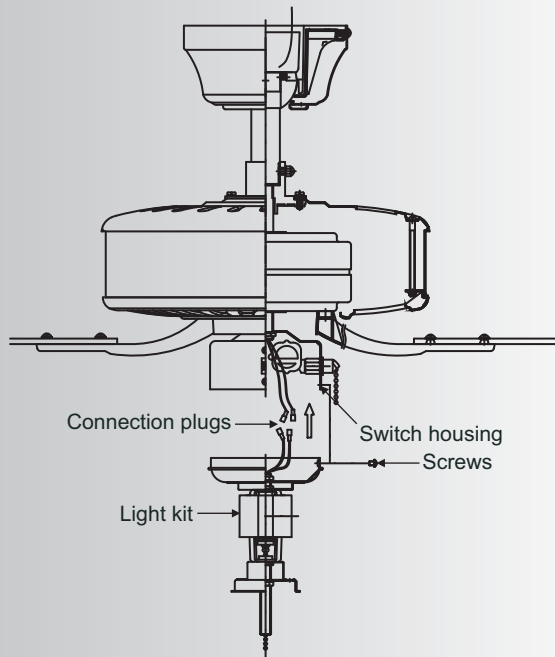

Fig. 17
Step 2. Raise and hold the light kit close to the switch housing. Connect the white wire connectors from the light kit and switch housing. Follow the same procedure with the black wire connectors. (Fig. 17)
Step 3. Tuck connections neatly into switch housing, Place the light kit key holes over the 3 screws previously loosened from the switch housing, turn light kit until it locks in place at the narrow section of the key holes. Secure by tightening the 3 screws previously loosened. (Fig. 17)